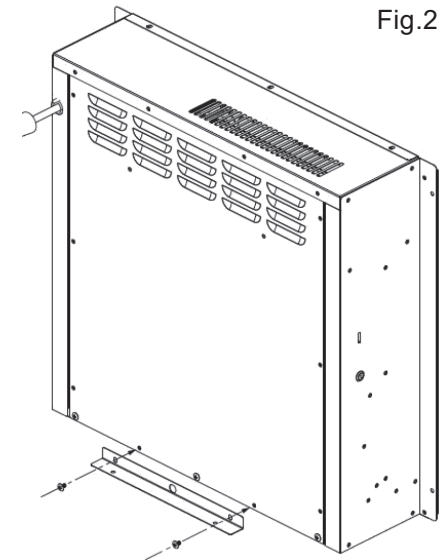

Fig.2
Step 2. Fasten the metal bracket (B) at the bottom of back panel with two silver screws. See Fig.2